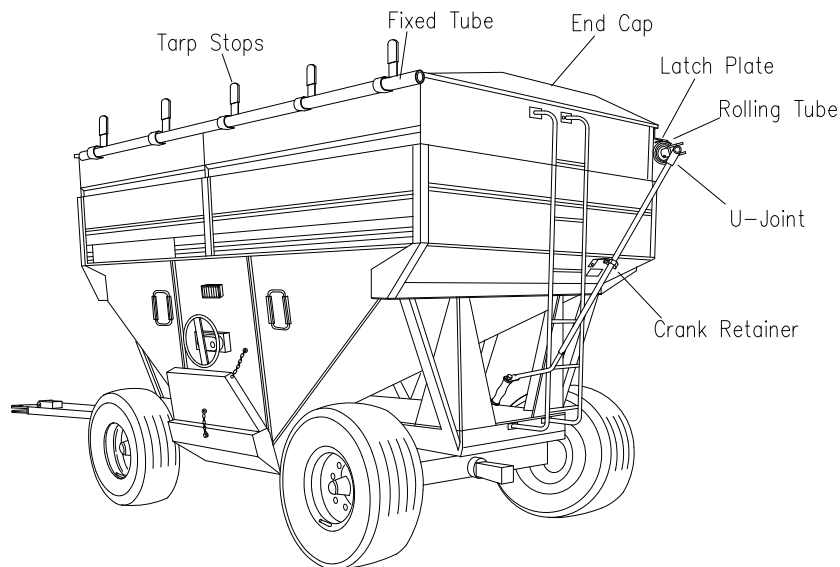

FIG. 2-1
1. Center mounting bezel in molded fender relief. Once located, use mounting bezel as a template and drill two $\frac{3}{16}$ " diameter mounting holes thru fender. See figure 2-1.